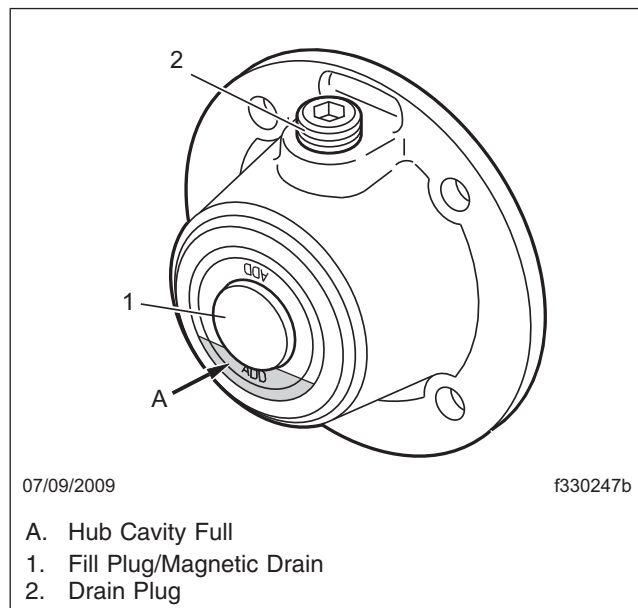

Fig. 5, Oil-Filled Hub Cap
4. Place suitable containers under the hubs, remove the filler plugs (in the ends of the hub caps) and the drain plugs, and allow the hubs to drain completely. See Fig. 5.
IMPORTANT: Fill the hubs to the level indicators on the hub caps, or to no more than 1/4 inch (6 mm) above the indicators. See Fig. 5.